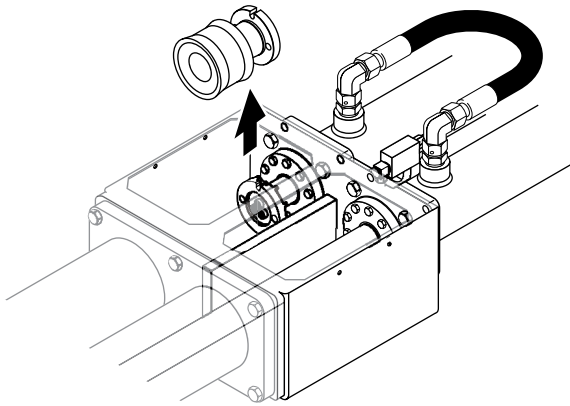

Figure 24
11. Remove the nut and bolt, and the ram will be free to come out of the waterbox (Figure 24).